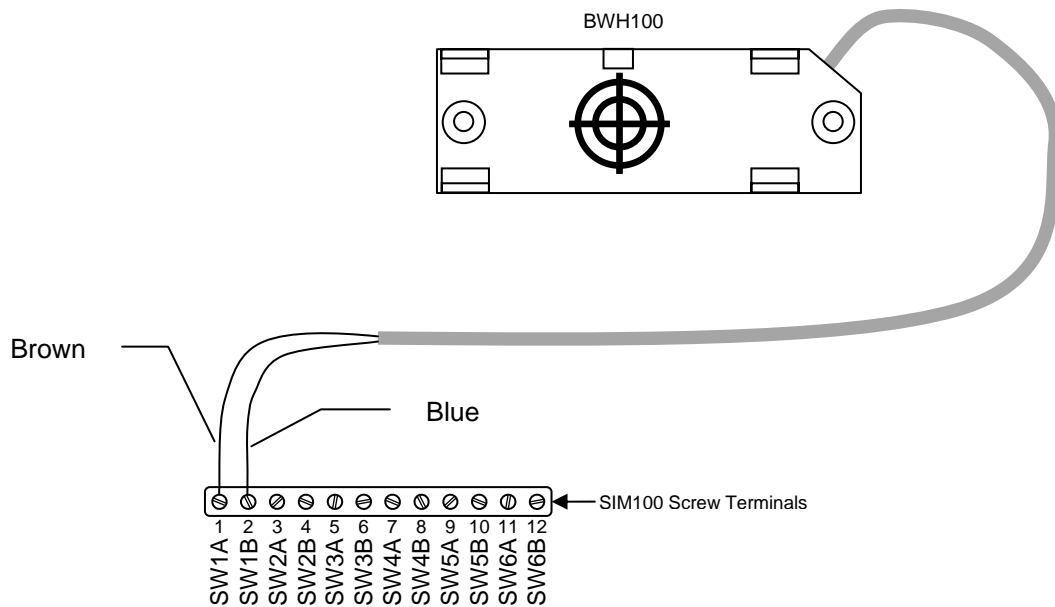

Figure 1 – Wiring Diagram
Please follow these instructions to connect the BHW100 to the NMEA 2000 network via a Maretron SIM100 Switch Indicator Module. The wiring diagram appears in Figure 1 on the reverse of this page. The diagram shows a connection to channel #1, but connections to other channels are similar.
1. The BHW100 cable contains one blue and one brown wire. Connect the brown wire to a free switch channel "A" terminal on the SIM100. The example in Figure 1 shows the detector connected to switch channel 1 with the brown wire connected to "SW1A".
2. Connect the blue wire to the corresponding "SWxB" terminal. The example in Figure 1 shows the detector connected to switch channel 1 with the blue wire connected to "SW1B".